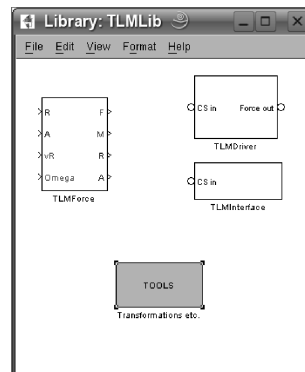

Figure 9.1: The Simulink TLM library for coupled simulations.
A Simulink library exists that contains different Simulink blocks, see also Figure 9.1. The main block is the **TLMForce** block that is a Simulink S-Function implementation of the TLM plugin. The **TLMDriver** and **TLMInterface** are sub-systems that are used to connect SimMechanics components to the **TLMForce**. Additionally, some useful Simulink blocks are collected in the **TOOLS** sub-system, for instance, blocks for matrix transformations.
1. Open the model and the TLM library TLMlib.mdl, see also Figure 9.1.